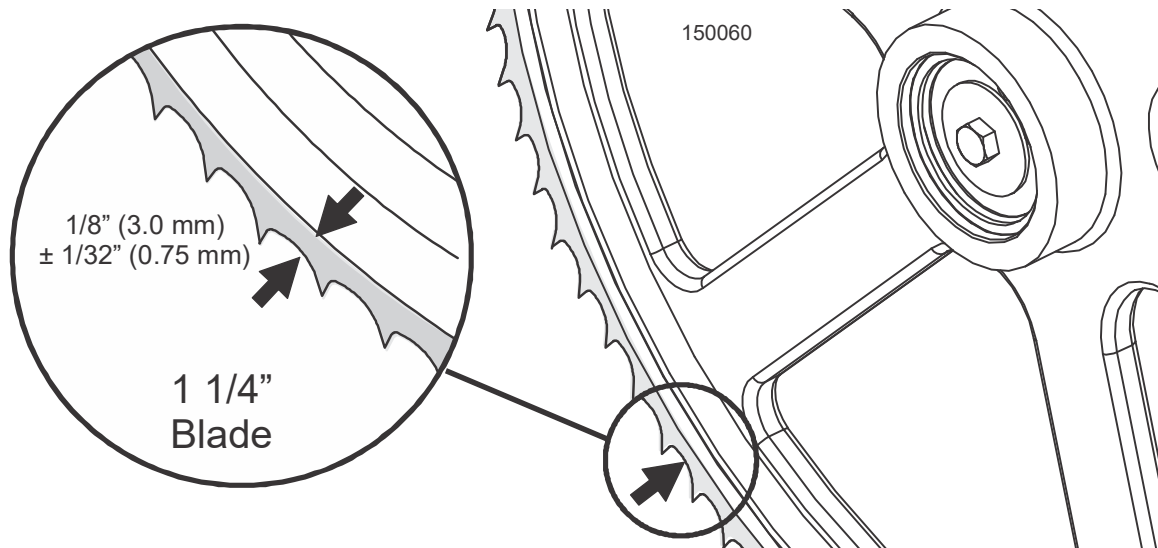

FIG. 4-6
6. Position 1 1/4" wide blades so the gullet is 1/8" (3.0 mm) out from the edge of the blade wheel ($\pm 1/32$ [.75 mm]). See FIG. 4-6.